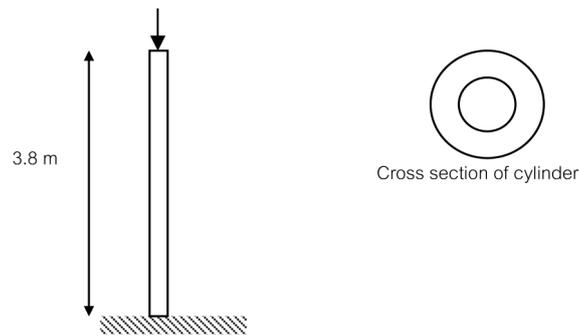

Figure Q.6
- 6 A hollow cast iron cylinder is 3.8 m long and outer diameter is 310 mm. The thickness of metal is 40 mm. The cylinder is subjected to a central load on the top when the cylinder is standing in a vertical position as shown in Figure Q.6. The Young's modulus of cast iron can be assumed as $1.5 \times 10^8 \text{ kN/m}^2$.